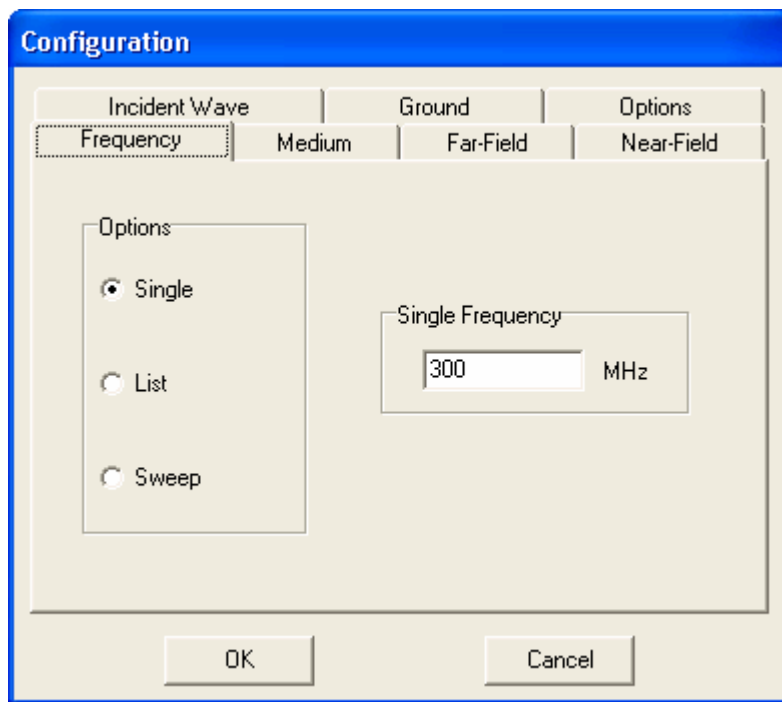

Fig. 4.1: Frequency page in the Configuration dialog box. A single frequency is entered.
Choosing Simulate/Configure... in the main menu can display the Configuration dialog box, where the simulation can be configured. This dialog box has the following pages: Frequency, Medium, Far-Field, Near-Field, Incident Wave, Ground and Options, Fig. 4.1.
- ❑ If **Single** is chosen, write the frequency in the “Single Frequency” box, as shown in Fig. 4.1.